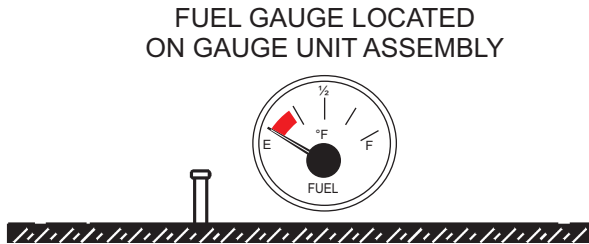

Figure 40. Full Fuel Tank
- NEVER overfill the fuel tank** — It is important to read the fuel gauge when filling the trailer fuel tank. **DO NOT** wait for fuel to rise in the filler neck (Figure 40).